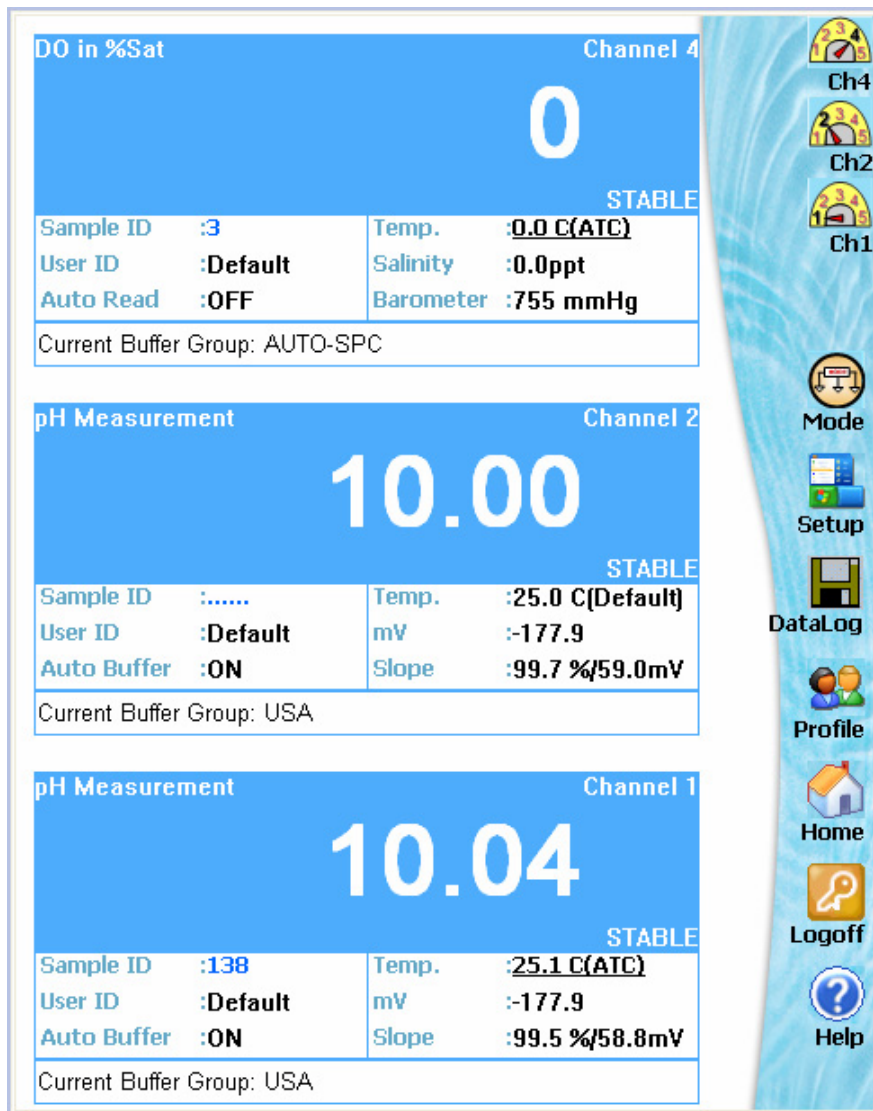

Figure 34 : Multi-channel measurement screen
5. The right-pane (workspace) displays the measuring screen of the selected parameters of each of the channels. (Figure 34).
Note: ATC mode is enabled when you connect a temperature probe to the meter. The measurement screen indicates the ATC mode by displaying '(ATC)' next to the Temperature ('Temp') field of the channel (Figure 34). When there is no temperature probe is connected to the meter, or the temperature probe is faulty, the measurement screen indicates '(Default)' next to the temperature field of the channel.